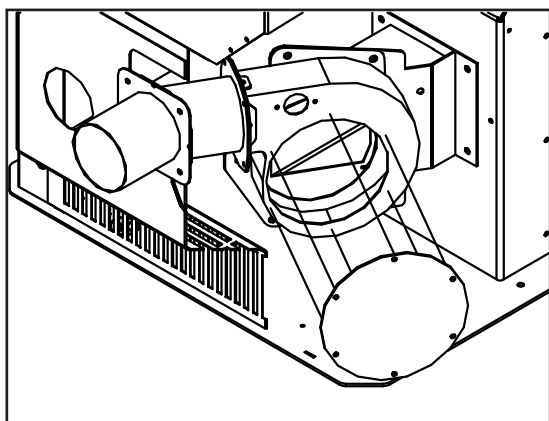

Figure 21: Exterior Blower Kit.
3. Disconnect the Exhaust blower wires from the wire harness. Remove the exhaust blower motor from the housing; six screws. Cover hole in housing with cover plate provided (see Figure 21).
5. Install the exhaust blower housing box into the pipe placed through the wall thimble, seal with high temperature silicone. Fasten the box to the wall with (4) four screws, seal edges of box to wall with clear silicone.